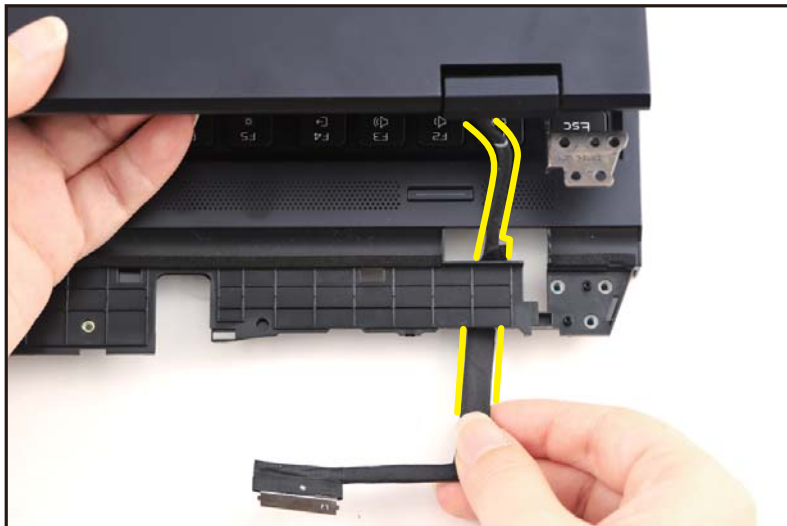

Figure 1-39. LCD Module Removal
4. Unroute the eDP cable from the opening on the top assembly and LCD hinge as shown in Figure 1-39. Then remove the LCD module away from the top assembly.